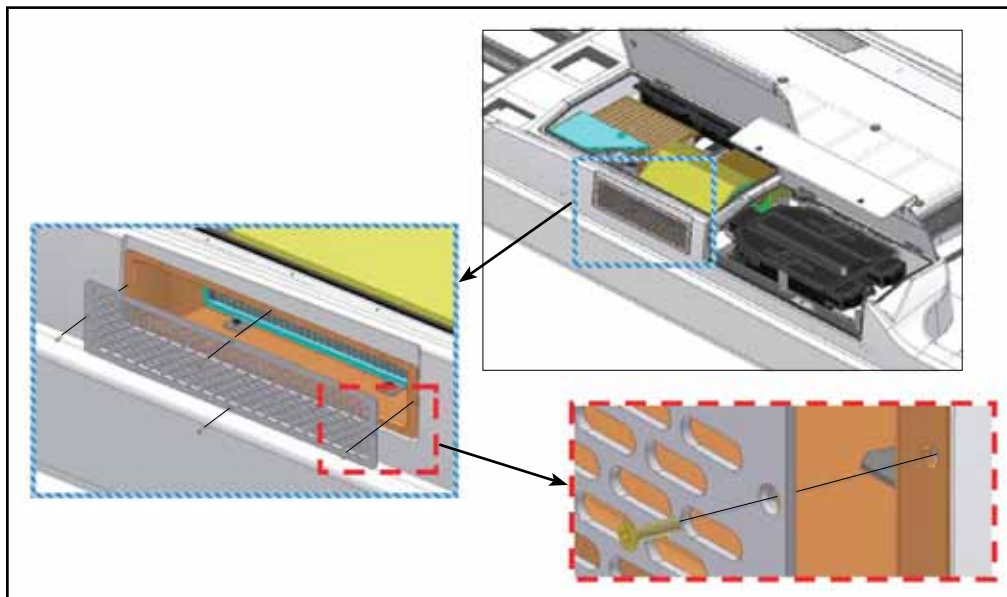

Figure 2 - Air Intake Grill (Streetside of the Vehicle)
1.2. Remove the air intake grill located on the streetside of the vehicle. See Figure 2.